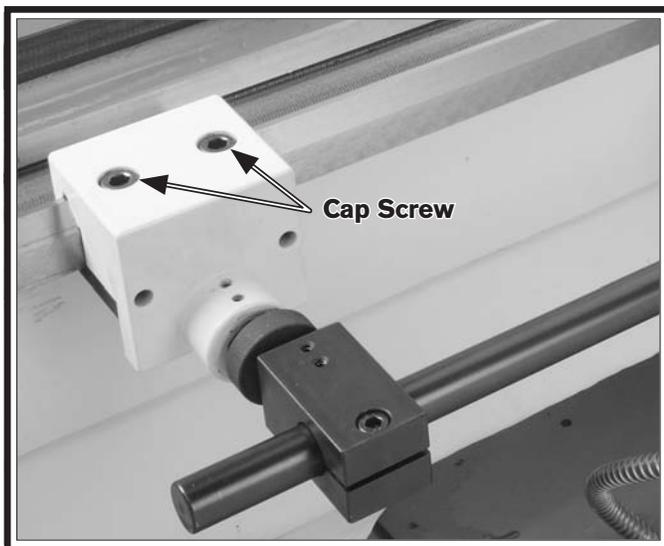

Figure 23. Deadman clamp location.
3. Using an 8mm hex wrench, tighten both deadman cap screws so the deadman clamps against the lathe bedway, as shown in **Figure 23**.